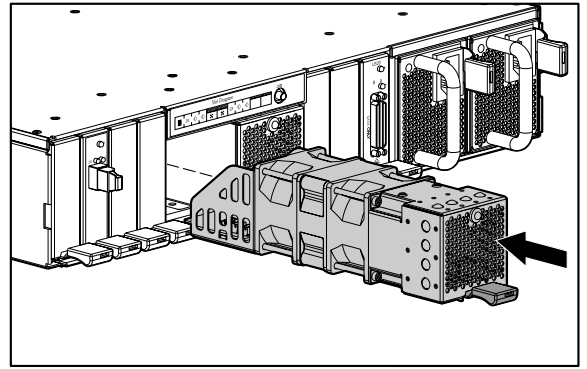

Figure 9: Installing the fan module
2. Slide the fan module into the bay until it clicks into place as shown in Figure 9.